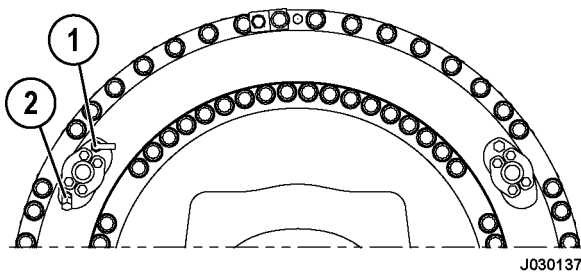

FIGURE 30-2. FRONT BRAKES
1. Remove the dust cap on test port (1, Figure 30-2) on the brake backplate.
2. Remove the capnut on bleed port (2). Attach a hydraulic pressure test device to the fitting.
4. Cycle the piston to full stroke ten times by applying 2 070 kPa (300 psi) of hydraulic pressure at bleed port (2). Observe the piston for leakage.